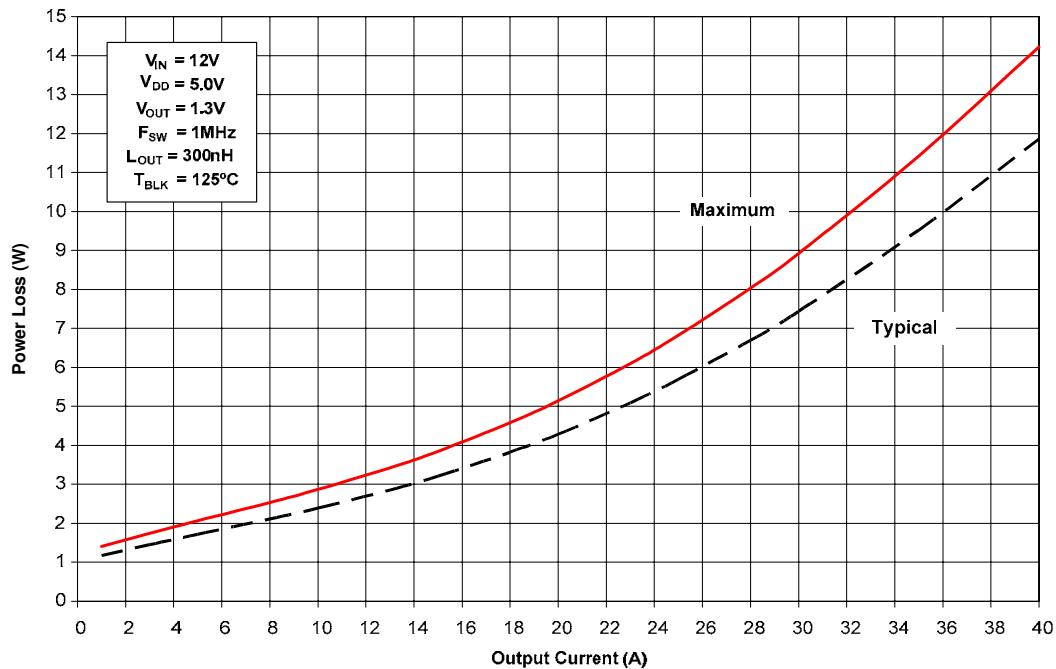

Figure 1 Power Loss Curve
- 1.Determine the maximum current for each iP2005A and obtain the maximum power loss from Figure 1
- 3.The maximum power loss under the application conditions is then the product of the power loss from Figure 1 and the normalized values.
(Figure 1)	Maximum power loss = 9.0W